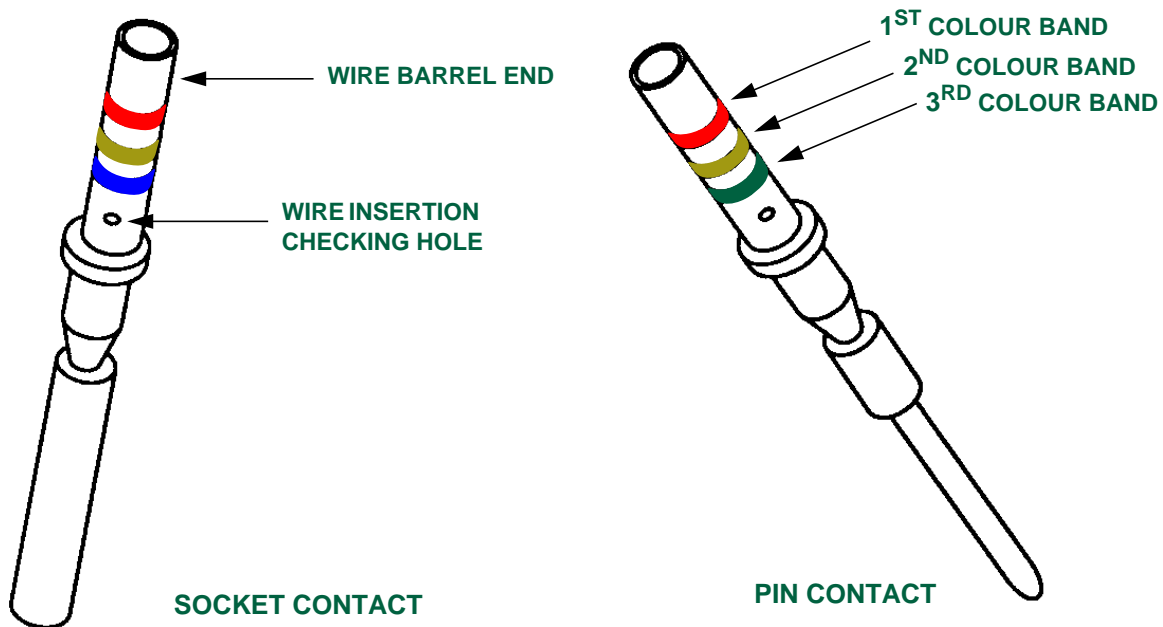

FIGURE 2 - GENERAL DESCRIPTION OF CRIMP TYPE CONTACTS
5.1.1 Crimp style contacts as specified herein are used as a means of terminating wires at electrical connectors and terminal junctions. Refer to Table I for a listing of M39029 contacts. Refer to Figure 2 for a general description of crimp style contacts.